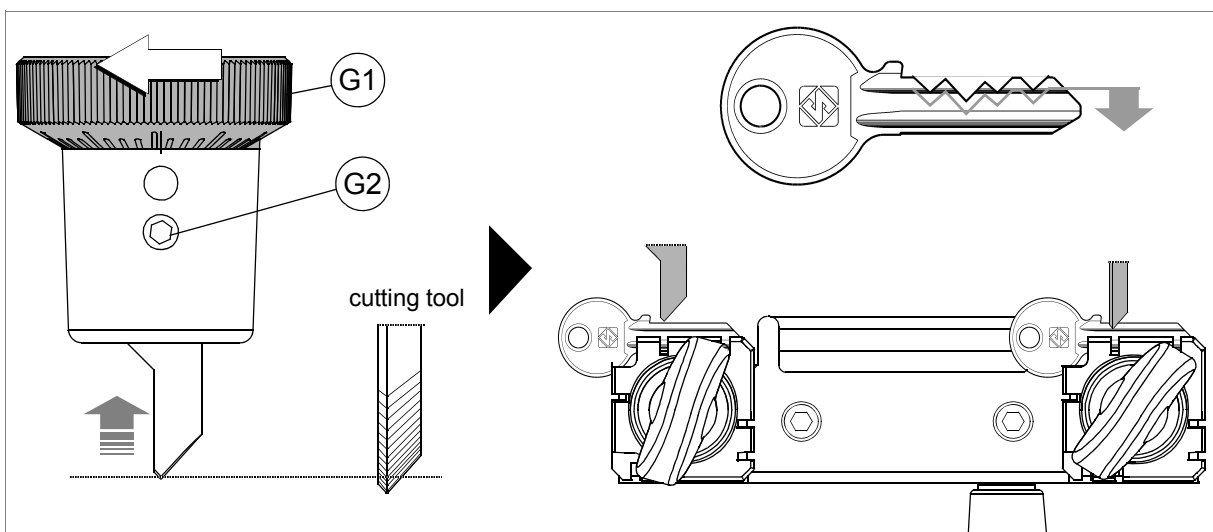

Fig. 17
- c) turn the ring nut (G1) anticlockwise to return (fig. 17).